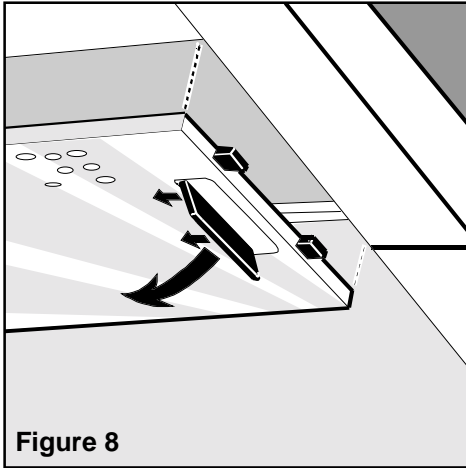

Figure 8
- Push simultaneously the two grease filter handles first upwards, then pull towards the center and extract the filters Figure 8.